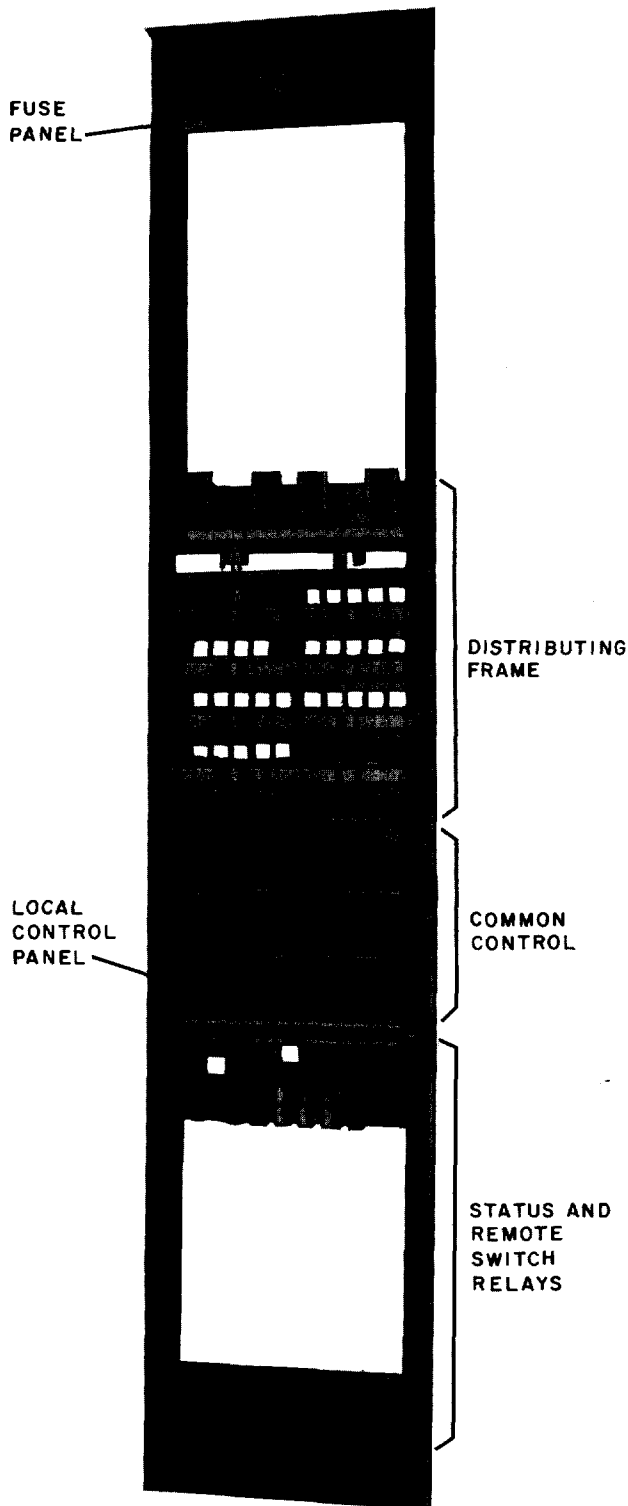
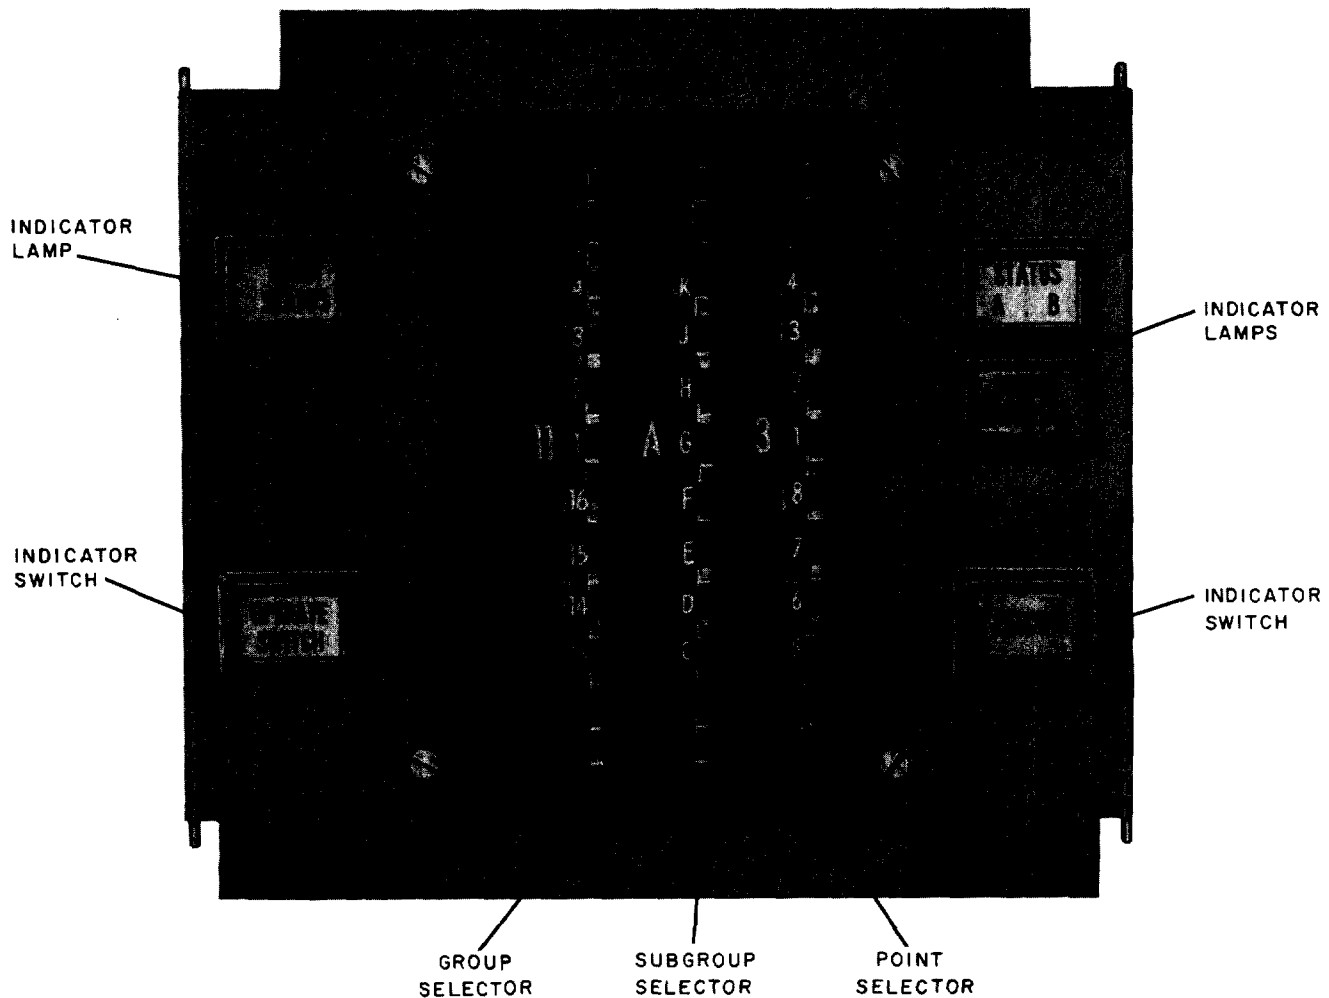

Fig. 5—Typical Remote Station
Fig. 6—Remote Station Local Control Panel
1.09 The remote station equipment (Fig. 5) may include a local control panel which is used for local control of that remote station. This control panel (Fig. 6) is used as an aid in maintaining the E1 remote station equipment and to provide local